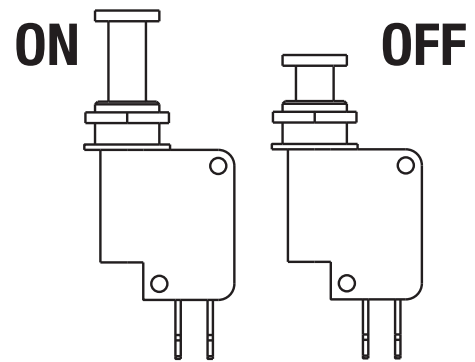

Fig. 16
- ➔ Pull ON/OFF switch out. Now the ignition circuit is closed and the battery supplies the ignition system with voltage (fig. 16).